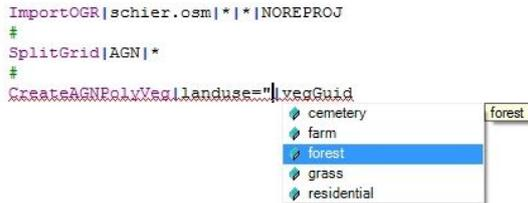

Figure 3.8: Auto completion while typing a filter
- When you are typing a filter to select your features (for more details see section 3.5) the auto completion can help you by showing the possible attributes and values. You need to press the Scan attributes button to make scenProc aware of all attributes. Else the auto completion will not show all attributes and possible values present in your data. Figure 3.8 shows an example of auto completion while typing a filter.